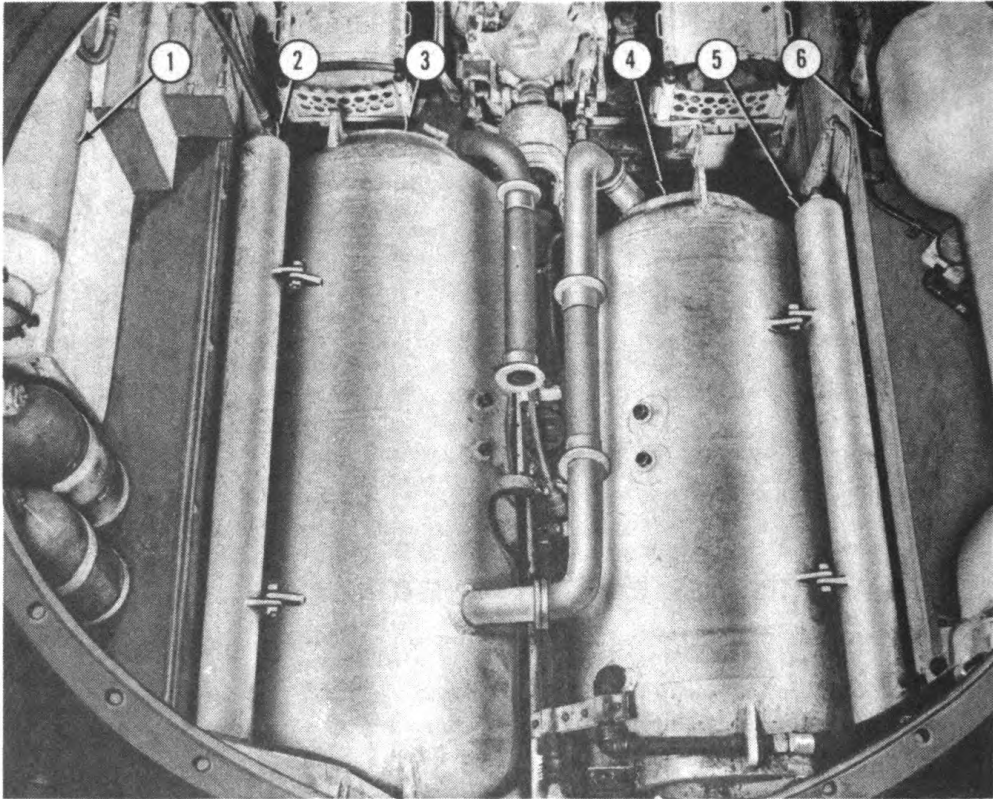
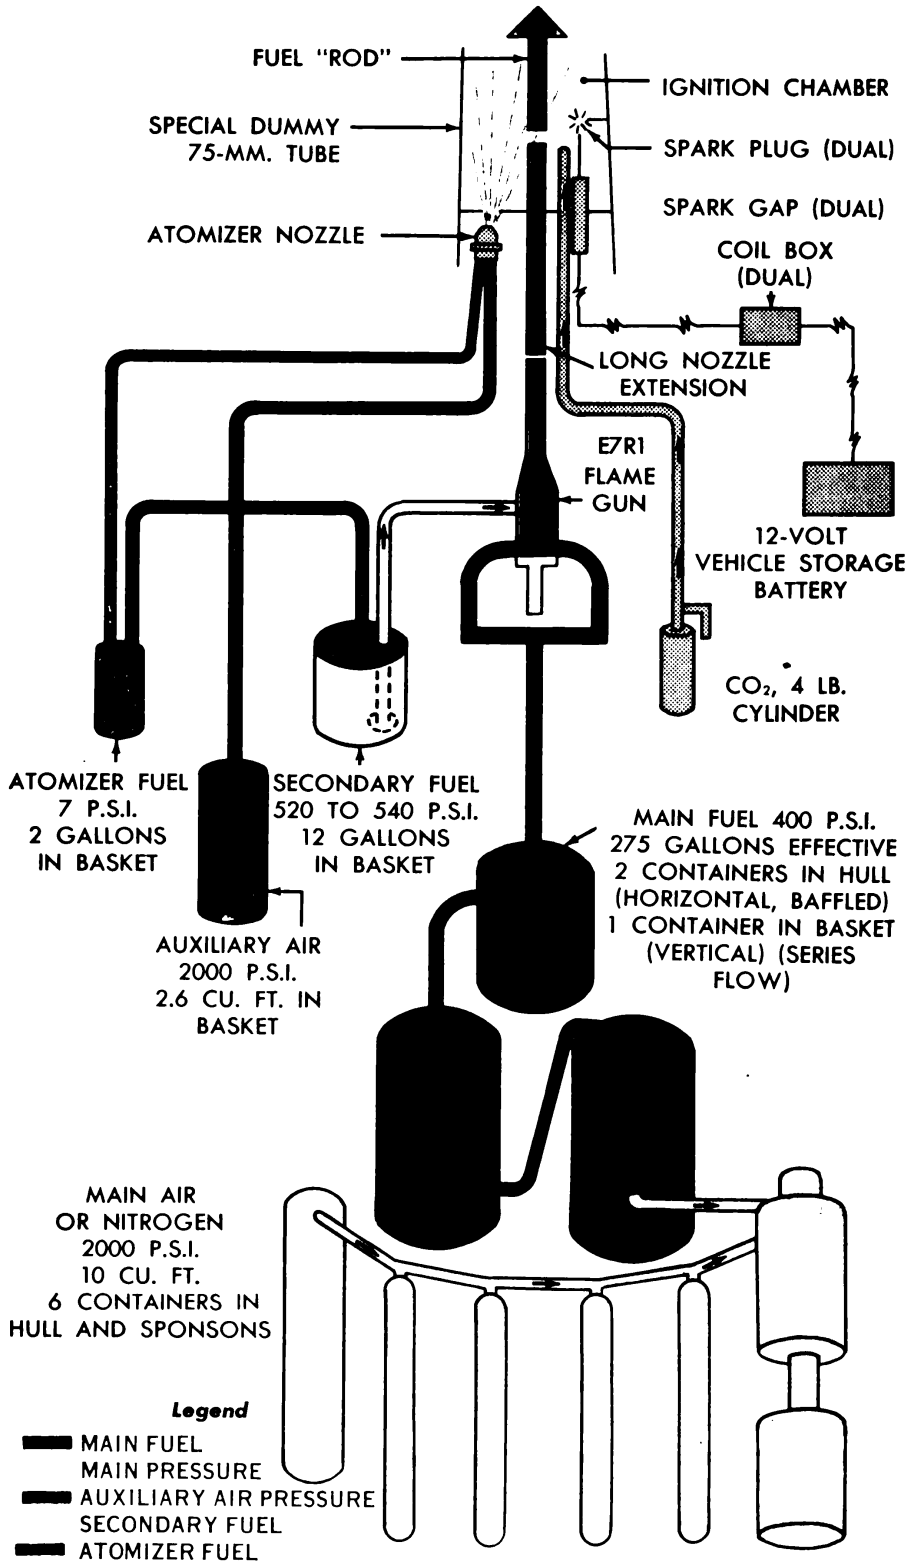

Figure 34—Main fuel and pressure containers in hull.
Figure 36—Simplified flow plan of mechanized flame thrower E12-7R1 in medium tank M4A1.
General placement of equipment is shown in figures 34 and 35 and a simplified flow plan of the design is shown in figure 36. A schematic diagram of the E12-7R1 mechanized flame thrower as installed in the M4A1 is given in detail in Appendix, figure 1. Code numbers or letters, such as AH1, are painted on fuel and pressure containers for identification. The following systems are provided for operation of the flame thrower:
e. Flexible hose. In the piping which connects the hull main fuel containers with the special rotary joint are two wire-braid reinforced, synthetic rubber, flexible hoses. These hoses prevent strain in the piping and leakage at flange joints due to vibration or motion (fig. 34). A similar hose is placed in the outlet line from the basket main fuel container leading to the flame gun.